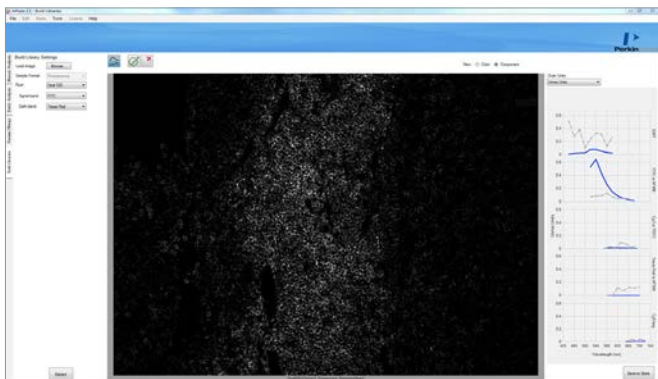

Figure 9. Spectral library slide image for a single fluorophore. Spectrum is extracted into the stain store.
2. Extract each Opal fluorophore spectrum using inForm 2.1 (or later) automated tools in Build Libraries tab (Figure 9).